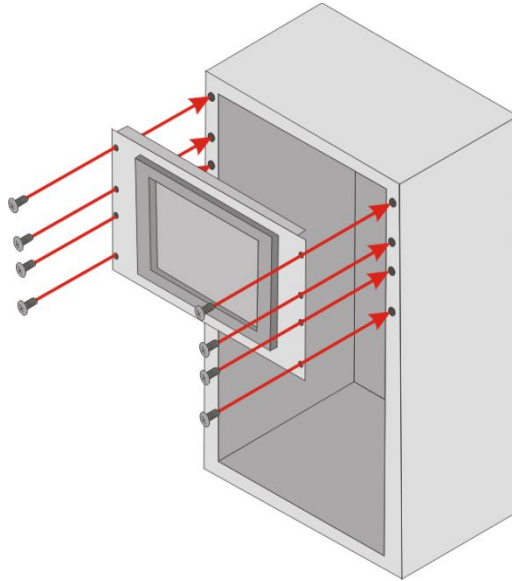

Figure 3-34: Install into a Rack/Cabinet
Step 5: Slide the LCD monitor with the attached rack/cabinet bracket into a rack or cabinet (Figure 3-34).
Step 6: Once the LCD monitor with the attached rack/cabinet bracket has been properly inserted into the rack or cabinet, secure the front of the rack/cabinet bracket to the front of the rack or cabinet (**Figure 3-34**).
Step 4: Once the LCD monitor with the attached rack/cabinet bracket has been properly inserted into the rack or cabinet, secure the front of the rack/cabinet bracket to the front of the rack or cabinet (**Figure 3-34**).